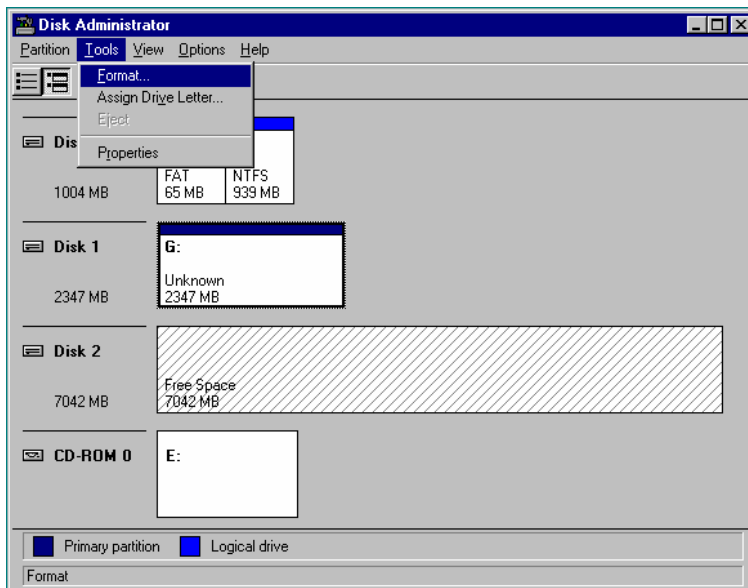
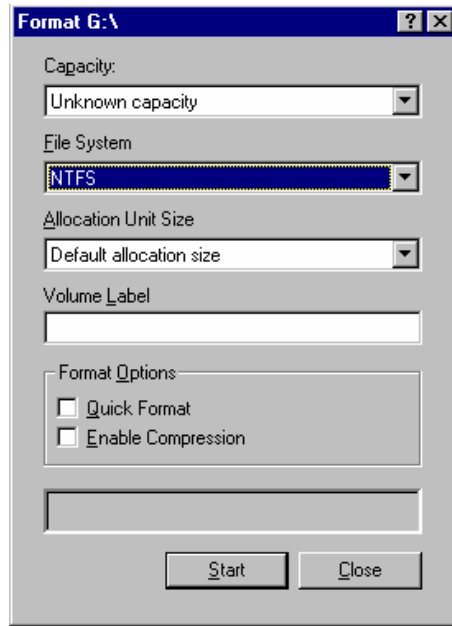

Figure 3.7 Opening the Format Dialog Box
Figure 3.8 Format Dialog Box
9. On the Tools menu, click **Format** (see Figure 3.7). The options in Figure 3.8 display.